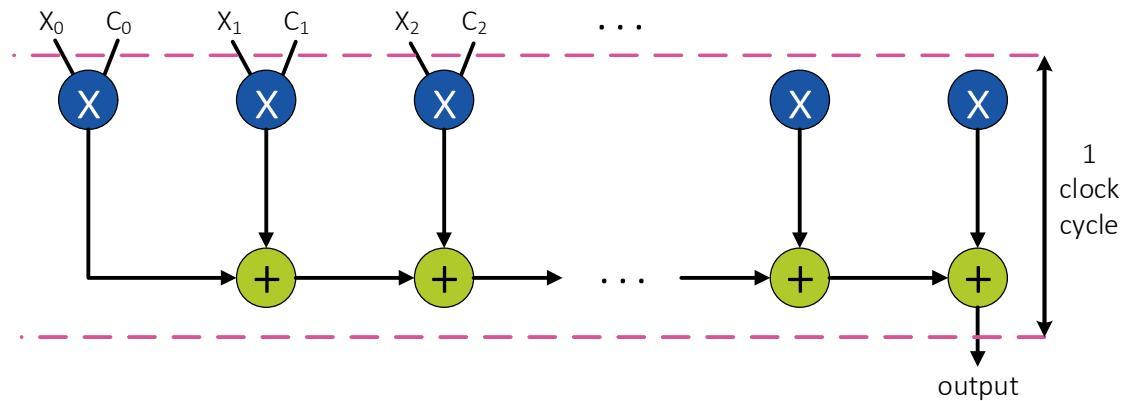
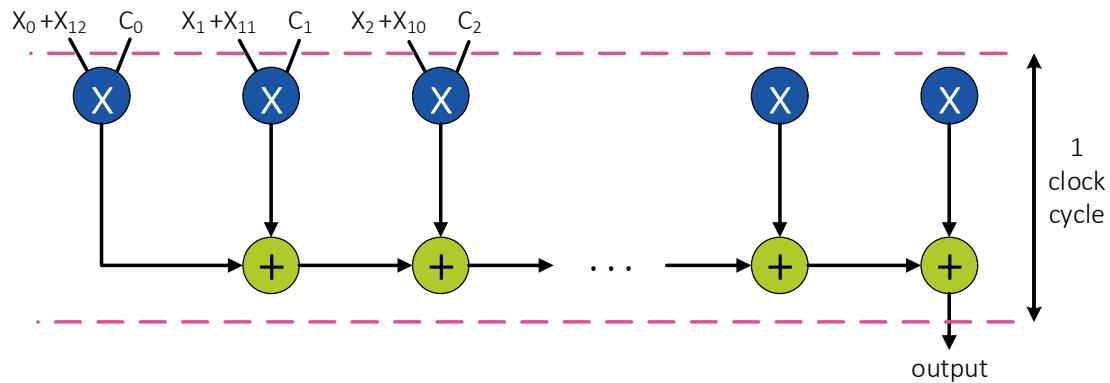

Figure 3. Fully parallel 13-tap FIR filter
Figure 4. Symmetric fully parallel 13-tap FIR filter
For this laboratory, the VHDL code for a fully parallel FIR filter is given in a folder IL2225\_lab/lab1/parallel\_fir. The architecture of the fully parallel FIR is shown in Figure 3. To implement the delay line a shift register is used.
**Question 1:** How many adders and multipliers are there in the critical path of the FIR filter with the architecture shown in Figure 3?
If the FIR filter is symmetric, it is more efficient to implement it as shown in the figure 4.
**Question 2:** How many adders and multipliers are there in the critical path of the FIR filter with the architecture shown in Figure 4? Comparing the architectures shown in figure 3 and 4 which one has a shorter critical path?